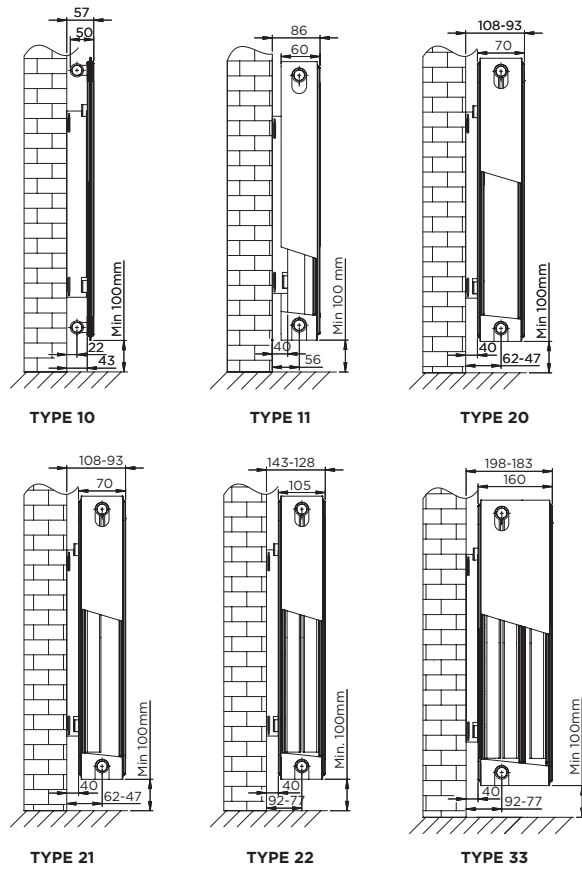

Figure 3
Warmhaus radiators are installed by using dual brackets (Figure 3) as below:
- In cases where the distance between the upper side of radiator and the window side is too narrow (less than 90% of the depth for radiators in length of 500 mm and less than 75% of the depth for radiators in length of 300 mm), heat efficiency of radiators reduces (see Figure 3).